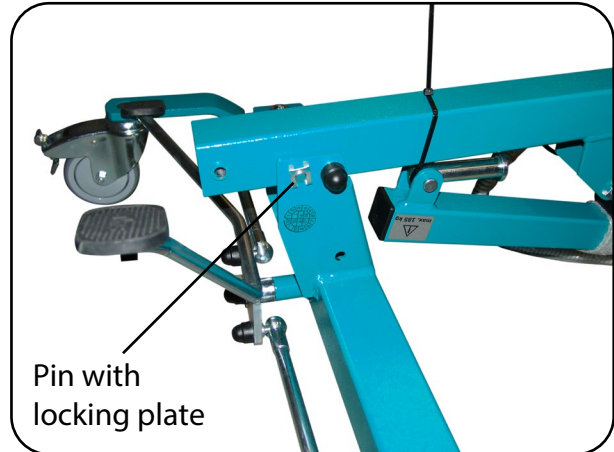

Fig. 6.2.02 - Stand mast holder
4. Remove the locking plate and then remove the pin from the hole for the transport lock on the stand mast holder (Fig. 6.2.02).